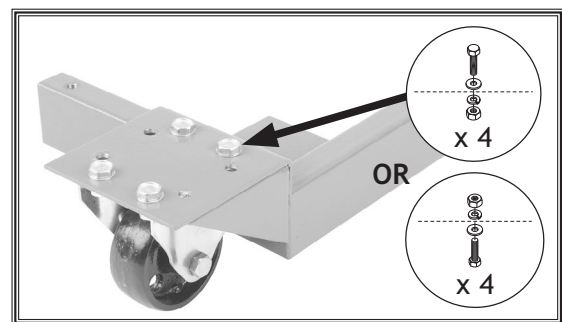

Figure 6. Options for mounting fixed casters to eight hole pattern corner brackets.
2. Mount each fixed caster to a corner bracket with the eight hole pattern using (4) M8-1.25 x 16 hex bolts, 8mm flat washers, 8mm lock washers and M8-1.25 hex nuts, as shown in Figure 6.